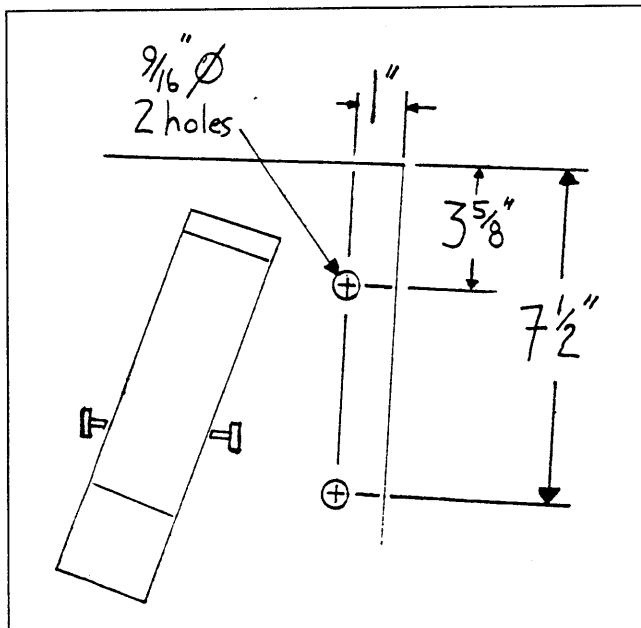

Figure 6
13. Drill two 9/16" dia. through the top of the operator foot platform on the right side as shown in Figure 6.